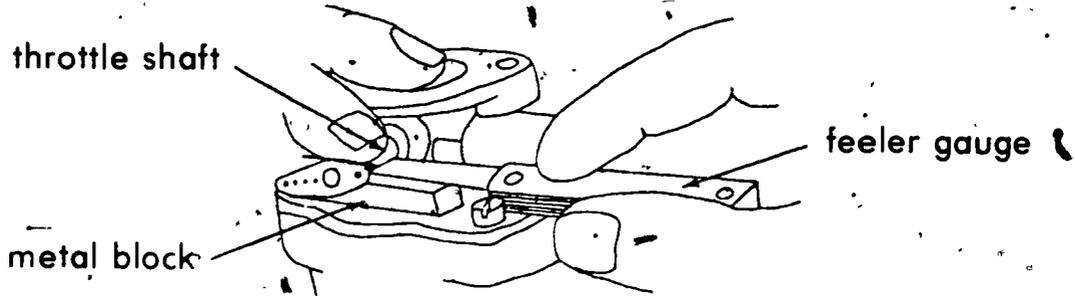

FIGURE 4
H. Check throttle shaft bushing for wear (Figure 4)